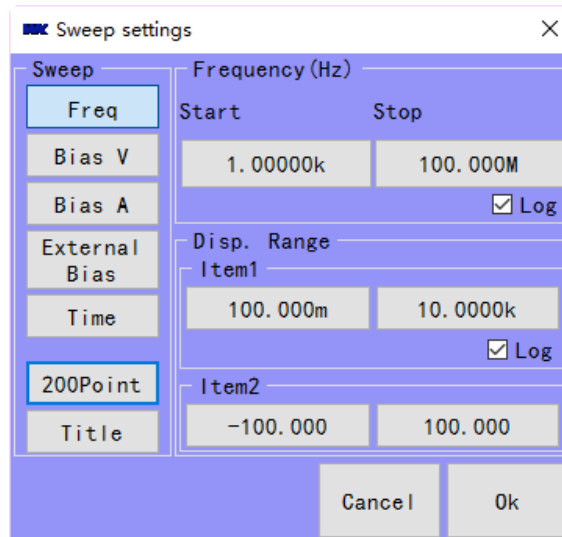

Figure 2-4
: Settings for sweep type and display scales. Click this button will show the Figure 2-4 dialog below to set sweep frequency range, bias range, and time range. you can give the sweep curves a name, and set how many points you want to sweep of this range. The signal level and test speed will be displayed in the lower left corner of status bar. Also, you can also set the display range for item1 and item2.